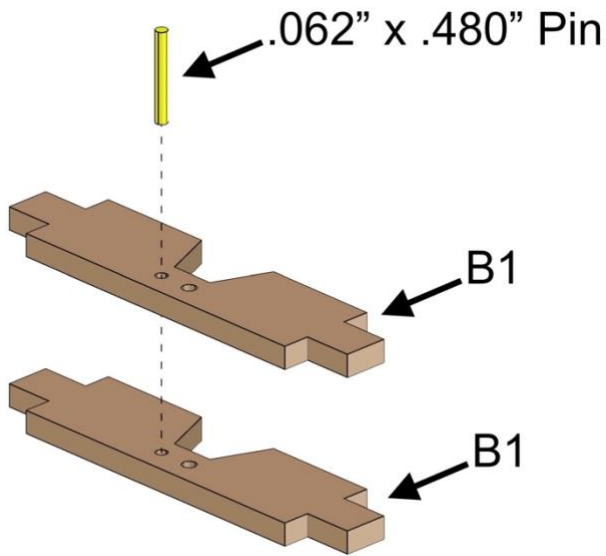

Fig. 9
- Align parts exactly as shown in Fig. 9.